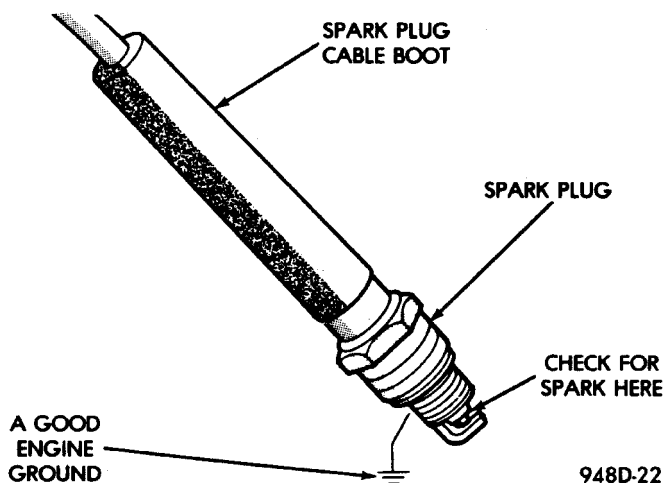

Fig. 15 Testing For Spark
(1) Insert a new spark plug into the new spark plug boot. Ground the plug to the engine (Fig. 15). Do not hold with your hand.